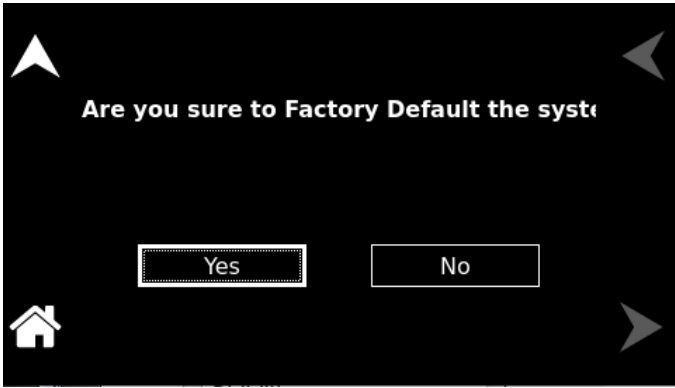

Figure 11-145. Factory Default
**Factory Default** Set the device to its original factory settings, as it was when it left the manufacturer. Refer to Figure 11-145.